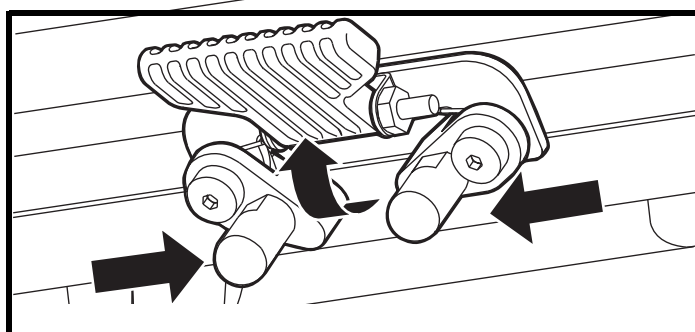

Figure 15. Seat Height Adjustment – Seat Latch Safety
4. Flip up the seat latch safety. **See figure 15.**